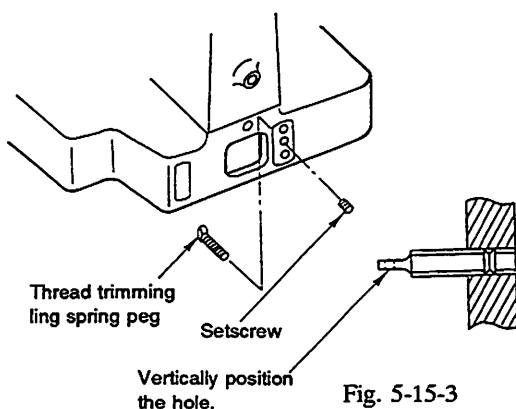

Fig. 5-15-3
- 3) Install thread trimming link spring peg so that hole for the spring peg is vertically positioned and fix it to the bed with small screw. At this time, the small screw head should enter the bed as deep as 0 to 0.5 mm. (Fig. 5-15-3)